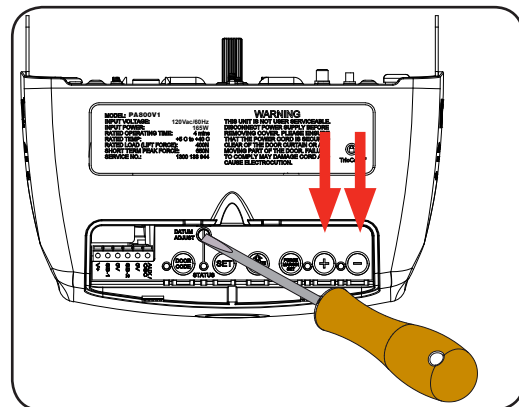

Fig.18
- Using a small screwdriver, turn the DATUM ADJUST screw until the STATUS LED comes on (Fig.18).